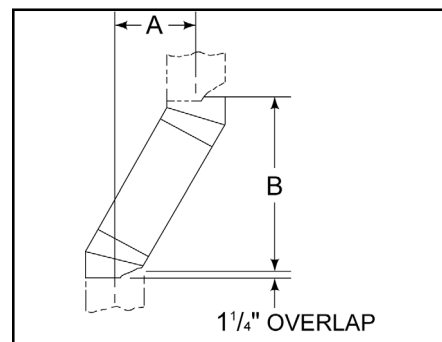

Figure 7 - Chimney Offset/Return
- Measure how far the chimney needs to be shifted to enable it to avoid the overhead obstacle. See Figure 7, dimension "A" to determine chimney sections required to achieve the needed shift.
Example: Your "A" dimension from Figure 7 is 14¹/₂". Using Table 1 the dimension closest to, but not less than 14¹/₂" is 14⁵/₈" using a 30° offset/return. It is then determined from the table that you would need 33" (Dimension "B") between the offset and return. The chimney components that best fit your application are two SL1112s.